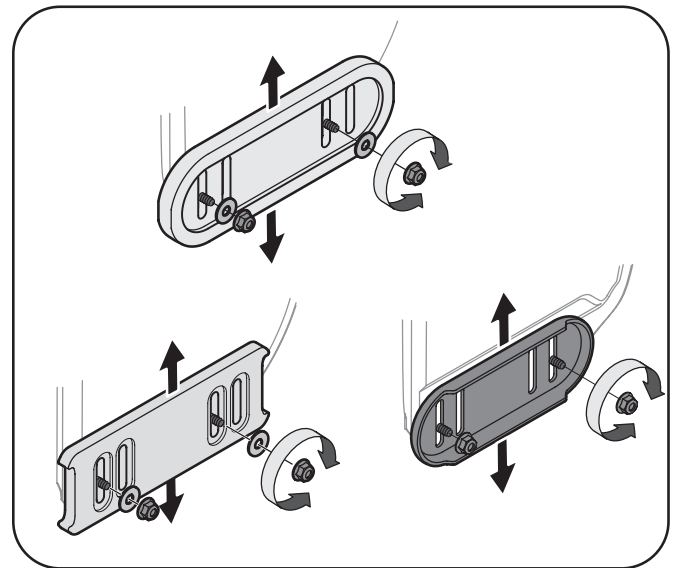

Figure 3-17
1. Loosen the four hex nuts (two on each side), washers (if equipped) and carriage bolts. Move skid shoes to desired position. See Fig. 3-17.